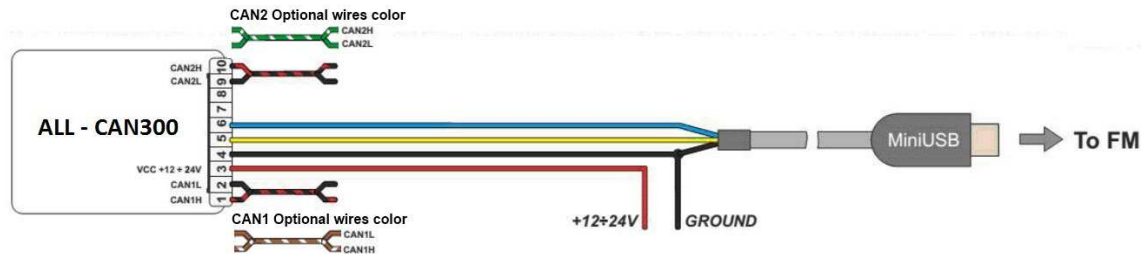

Figure 80 ALL-CAN300 Adapter connection cable pinout
1. In car, connect LV-CAN200 or ALL-CAN300 to CAN bus and to the FM6320 device (Figure 80) wait 10 seconds. Note, that car engine must be started.